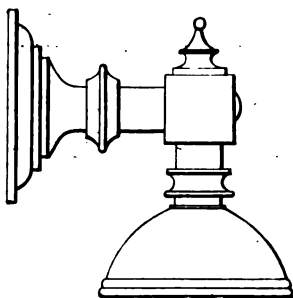

Fig. 69.—Cabin Bracket.
*Incandescent Lamps subject to vibration* can be run with safety if fitted in the style of holder already described at page 215. Stateroom fittings are generally of plain, substantial pattern. Two forms of cabin brackets are shown in Figs. 69 and 70.